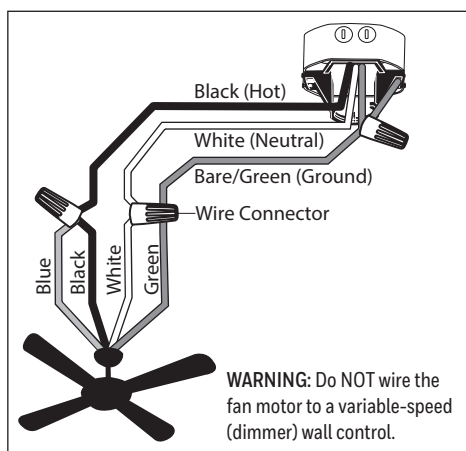

Figure 5.1
1. Use wire connectors to connect household supply and fan wires according to the diagram (Figure 5.1) and the following steps: